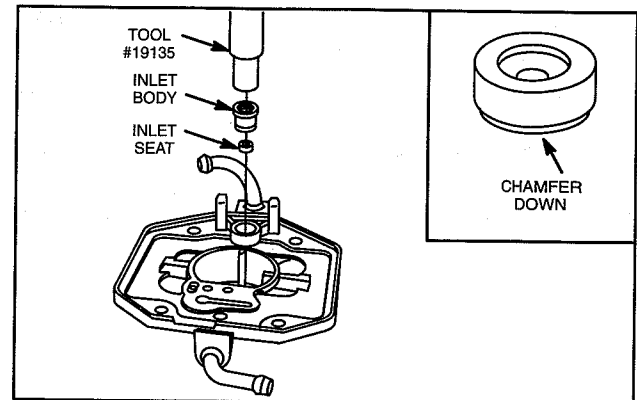

Fig. 109 – Install Inlet Seat And Body
1. Install new inlet seat with chamfered end down, Fig. 109.